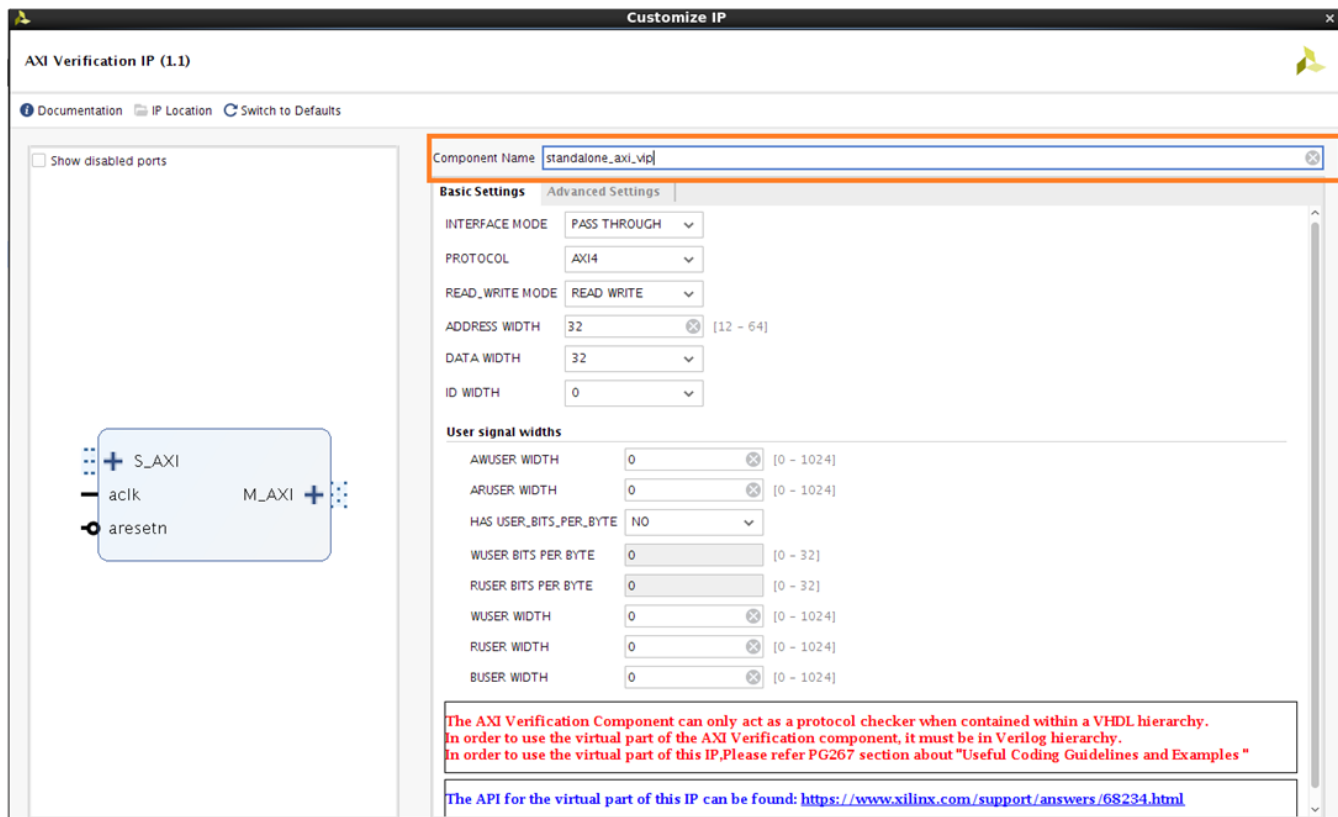

Figure 6-5: Standalone `<component_name>_pkg`
2. Import two required packages: `axi_vip_pkg` and `<component_name>_pkg`. The `<component_name>_pkg` includes agent classes and its subclasses for AXI VIP. For each VIP instance, it has a component package which is automatically generated when the outputs are created. This component package includes a `typedef` class of a parameterized agent. Xilinx recommends importing this package because reconfiguration of the VIP has no impact of the test bench. Figure 6-5 shows how to retrieve the `<component_name>_pkg` from a standalone AXI VIP.